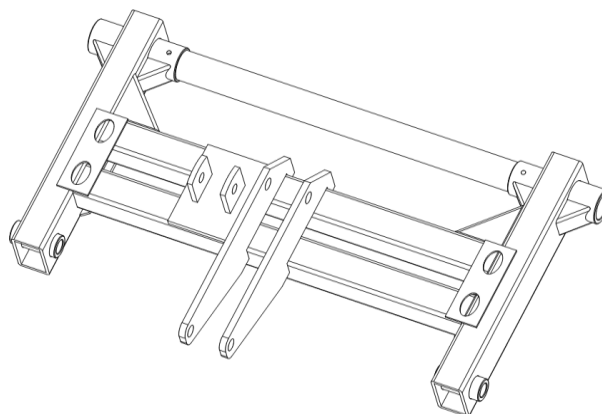

Figure 3.4
3. Wheel Axle Frame (Figure 3.4)